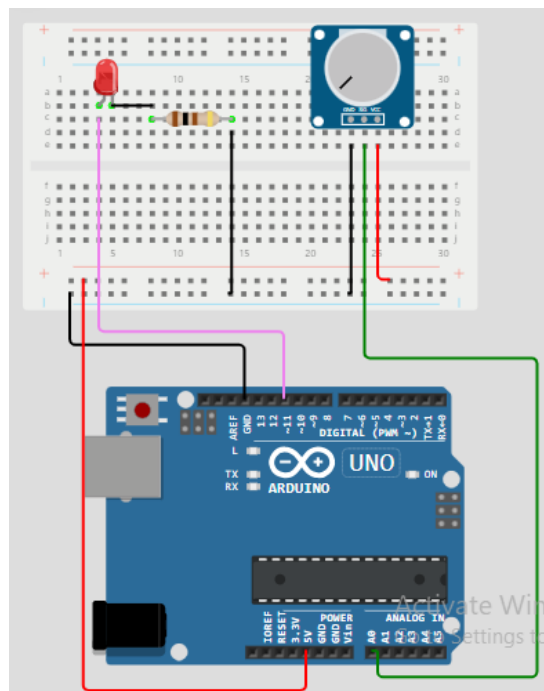

Figure 7.4
- a) Refer to the circuit in figure 7.4 which is designed to control the brightness of a LED using a potentiometer. Identify the components used here and design it in Wokwi.